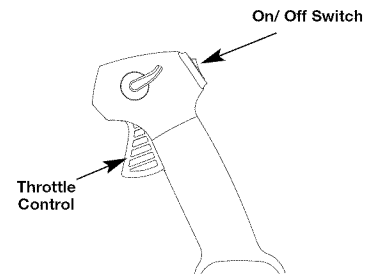

Fig. 12
**NOTE:** There is no need to turn the unit on. The On/Off Control is in the ON (I) position at all times (Fig. 12).
2. Press and hold the On/Off switch in the OFF (O) position until the unit comes to a complete stop (Fig. 12).